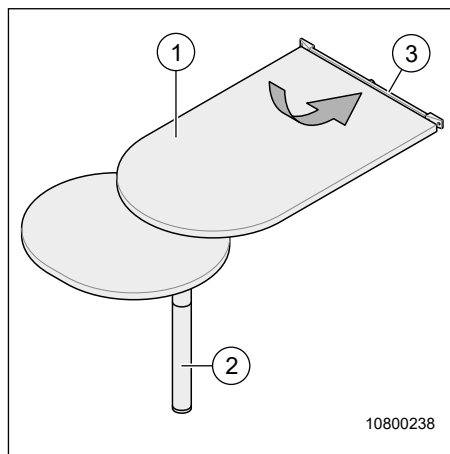

Fig. 18 Table, removable
1. Lift table plate (Fig. 18, Pos. 1).
Caution: The bottom leg part (Fig. 18, Pos.2) is only inserted and may fall out.
2. Remove the bottom leg part (Fig. 18, Pos. 2).
3. Hold the table plate (Fig. 18, Pos. 1) with both hands, and remove from the hanging rail (Fig. 18, Pos. 3)..
Caution: The table plate (Fig. 18, Pos. 1) is only hung on and may fall down if lifted too high.
1. Lift the table (Fig. 18, Pos. 1) slightly in order to release the tothing.
2. When the table (Fig. 18, Pos. 1) is in the raised position, swivel into the desired position.
3. Put the table (Fig. 18, Pos. 1) back down and make sure that the teeth engage.
4. Lift the table (Fig. 18, Pos. 1) slightly with one hand.
5. Remove the bottom leg part (Fig. 18, Pos. 2) and stow away safely.
6. Grasp the table (Fig. 18, Pos. 1) with both hands, lift and remove from the top wall rail.
7. Positioned at a slight angle, hand the table (Fig. 18, Pos. 1) into the bottom wall rail and put down again